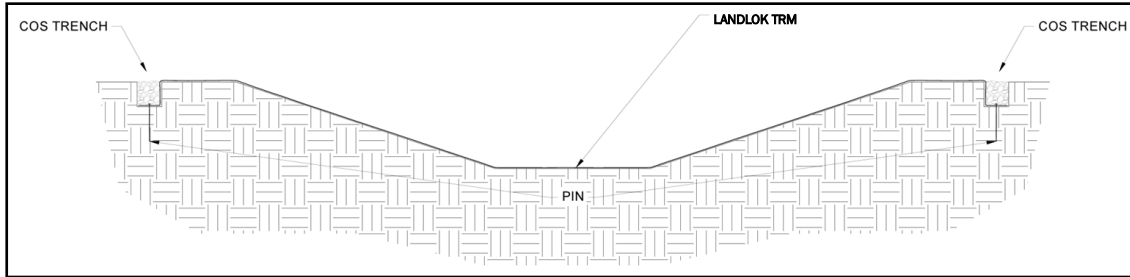

Figure 17: Crest of Slope (COS) Trenches Complete
1. Starting with the downstream end of the site select one of the COS trenches to begin the LANDLOK Laydown process. To ensure proper anchoring of the overlapped areas the proceeding roll width must be laid out before the current roll width can be anchored with exception to the final roll width at the TC trench. For straight sections of a channel, LANDLOK panel lengths should be long enough to construct both COS trenches while also covering the surface of the channel being armored. (Figure 17) Panel edges should rest perpendicular to the channel center line. For best results, panels of LANDLOK should be continuous and free from seams or roll end overlaps that are parallel to the centerline of the channel. Panel edge overlapping should follow a pattern of placing each proceeding panel's edge overtop the previous panel edge, shingling the panels in the direction of the water flow.
- Secure LANDLOK with pins in the opposite COS trench. Suggested placement of pins for the opposite COS trench is along the bottom of the trench on 12 in (300 mm) centers (Figure 17).
- Backfill and compact the opposite COS trench in the location of the first LANDLOK panel only (Figure 17).